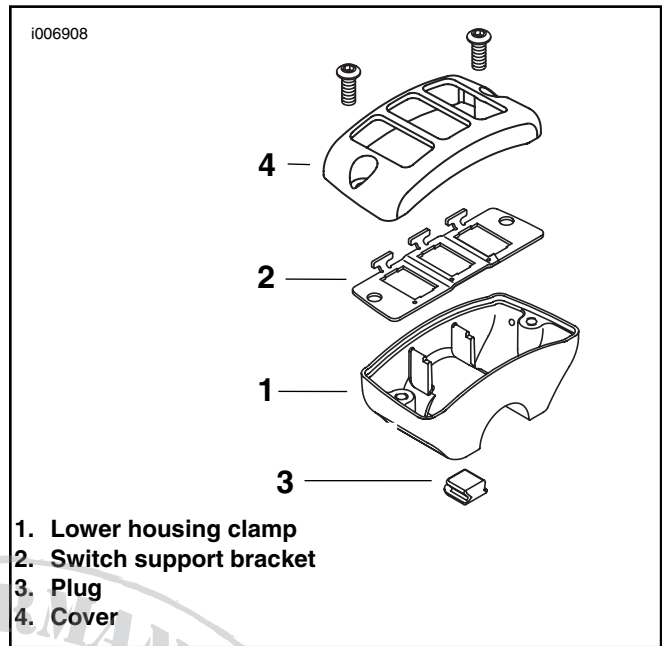

Figure 1. Auxiliary Accessory Housing
1. See Figure 1. Follow the instructions in the auxiliary accessory housing kit to install the lower housing clamp (1).
5. See Figure 1. Route the pin terminal ends of the wire harness alongside the switch support bracket (if present) (2) and then through the lower plug hole in the back of the lower housing clamp. Carefully pull the harness until it is completely through the opening.